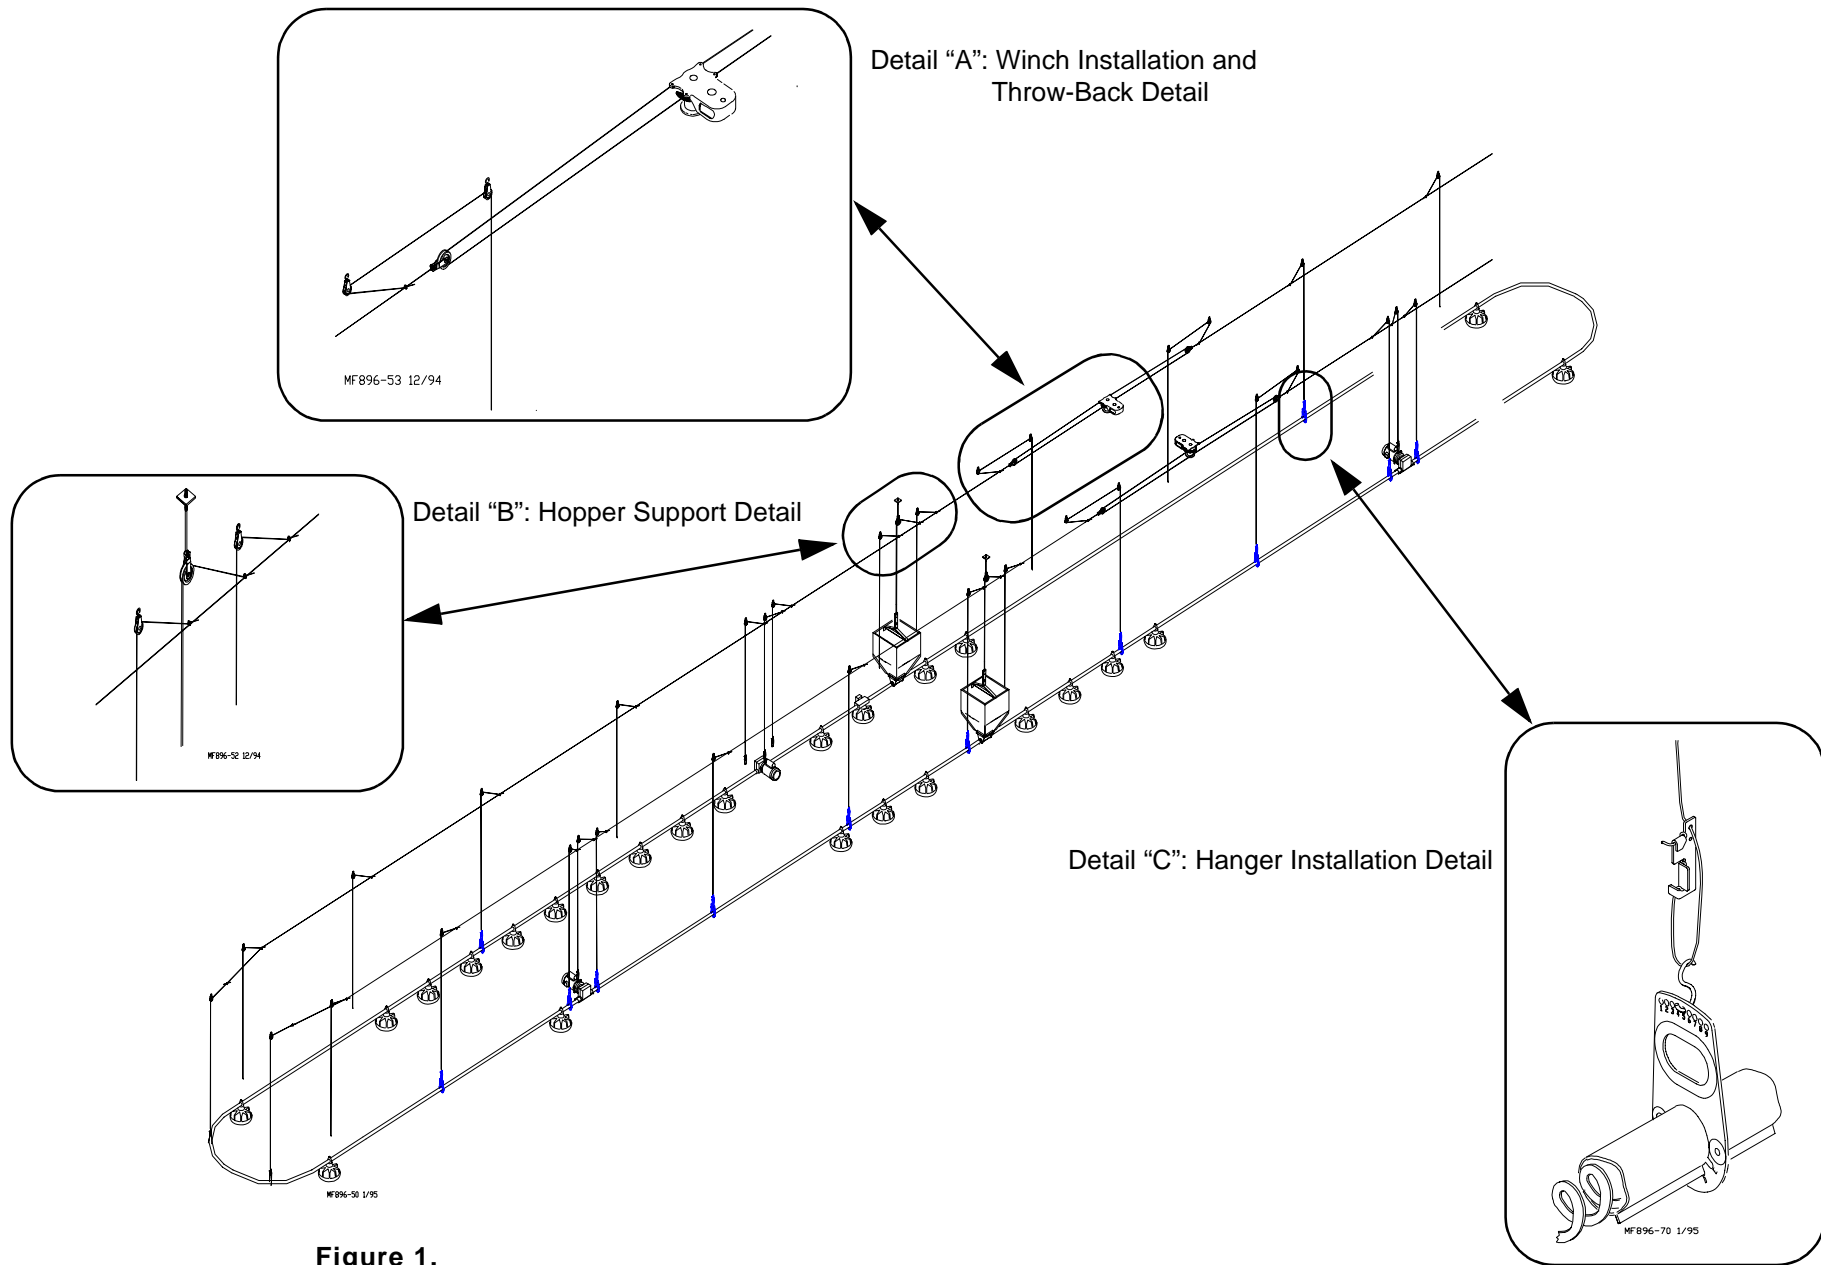

Figure 1.
2. **Figure 1**, on **page 10**, shows the correct suspension system for all feeder line lengths. Notice additional support must be provided at each Hopper, Power Unit, and elbow location.
3. Determine where the feeder line is to be installed. Mark a straight line on the ceiling or rafters the full length of the feeder line. Use a string, chalk line, or the winch cable, temporarily attached with staples, to mark the line. Center the line directly over where the feeder is to be installed. For feeder lines over 350' [107m], a block & tackle is required on the main cable line. See **figure 1 Detail "A"** on following page.
Sufficient cable is included to provide "throwbacks" on drops located beneath and near the winch. Detail "A" in **Figure 1** shows a "throwback" cable arrangement.